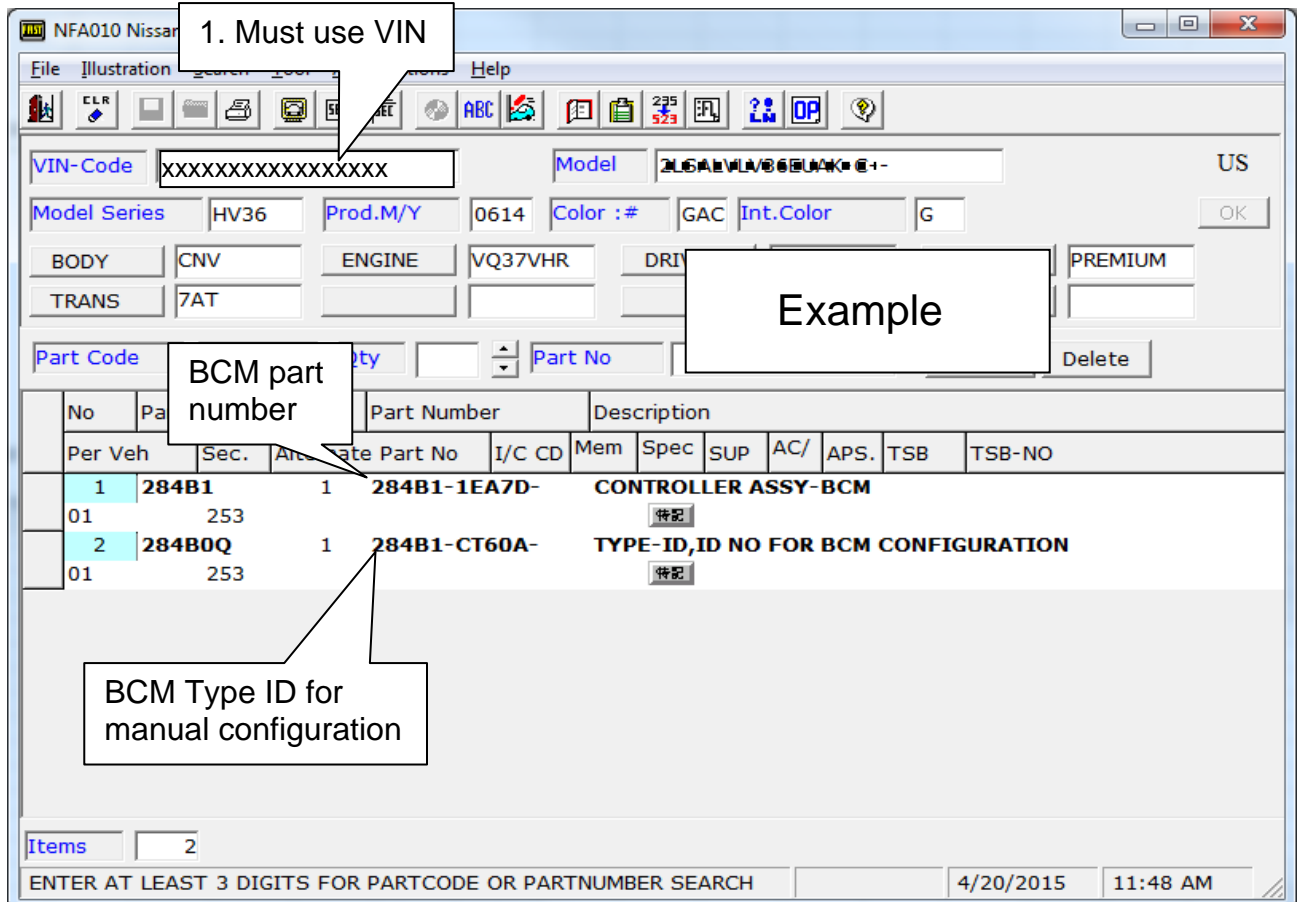

Figure 2
- b. The BCM (CONTROLLER ASSY-BCM) part number will be listed as shown in Figure 2.
- c. The Type ID (ID NO FOR BCM CONFIGURATION) will be listed as shown in Figure 2.